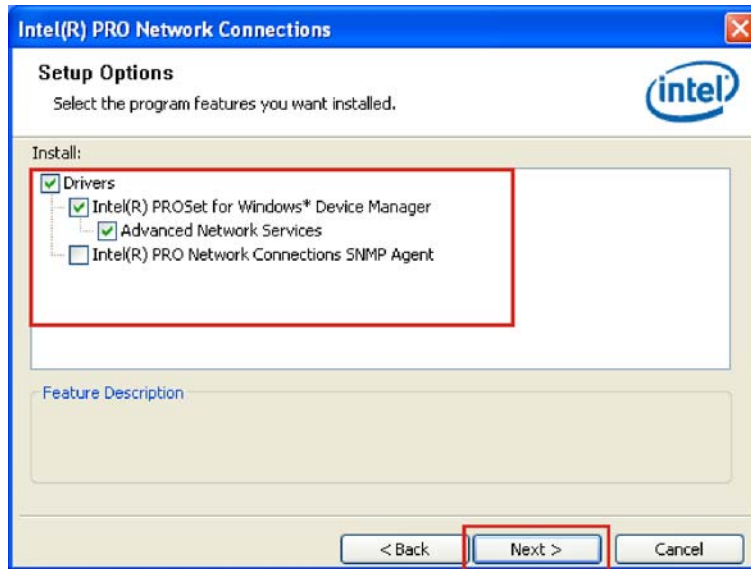

Figure 7-15: LAN Driver Setup Options
Step 7: The Setup Options screen in **Figure 7-15** appears next.
Step 8: Select the required installation configuration in **Figure 7-15** and click **NEXT** to continue.